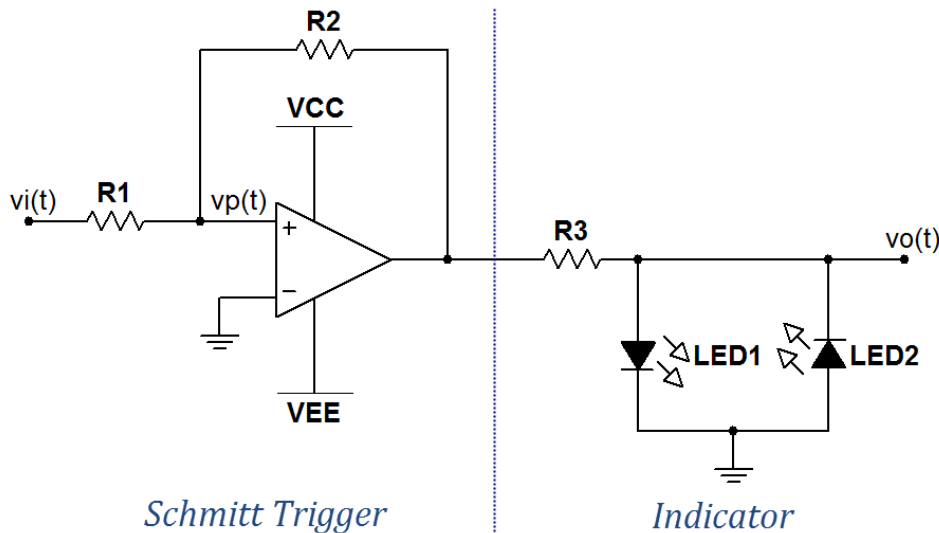

Figure 2.12: Circuit for Problem 2.10
Figure 2.12 shows a *Schmitt trigger comparator*, a circuit that introduces *hysteresis* to the comparison threshold. Hysteresis, in essence, produces two distinct threshold voltages; the output state of the op amp selects the active threshold voltage, consequently the threshold depends on the time history of the input.
Enter the circuit of Figure 2.12 on the previous page using the TL072CP op amp model. Place the VCC and VEE power supplies and set their values to +15 V and -15 V. Use LED_green and LED_red for the LEDs.
1. Build the circuit of Figure 2.12 on page 87. Use A00 to create v_i . Set up the NI ELVISmx Function Generator to create the triangle waveform described in the problem statement. Use the NI ELVISmx Oscilloscope to display $v_i(t)$ and $v_o(t)$. Take cursor measurements to determine the two threshold voltages V_{LH} and V_{HL} .